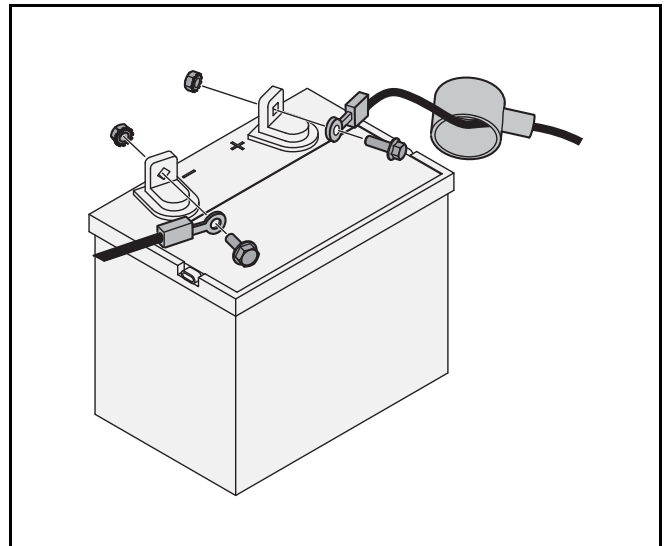

Figure 2
1. Remove the plastic cover, if present, from the positive battery terminal and attach the red cable to the positive battery terminal (+) with the bolt and hex nut. See Figure 2.
2. Remove the plastic cover, if present, from the negative battery terminal and attach the black cable to the negative battery terminal (-) with the bolt and hex nut. See Figure 2.